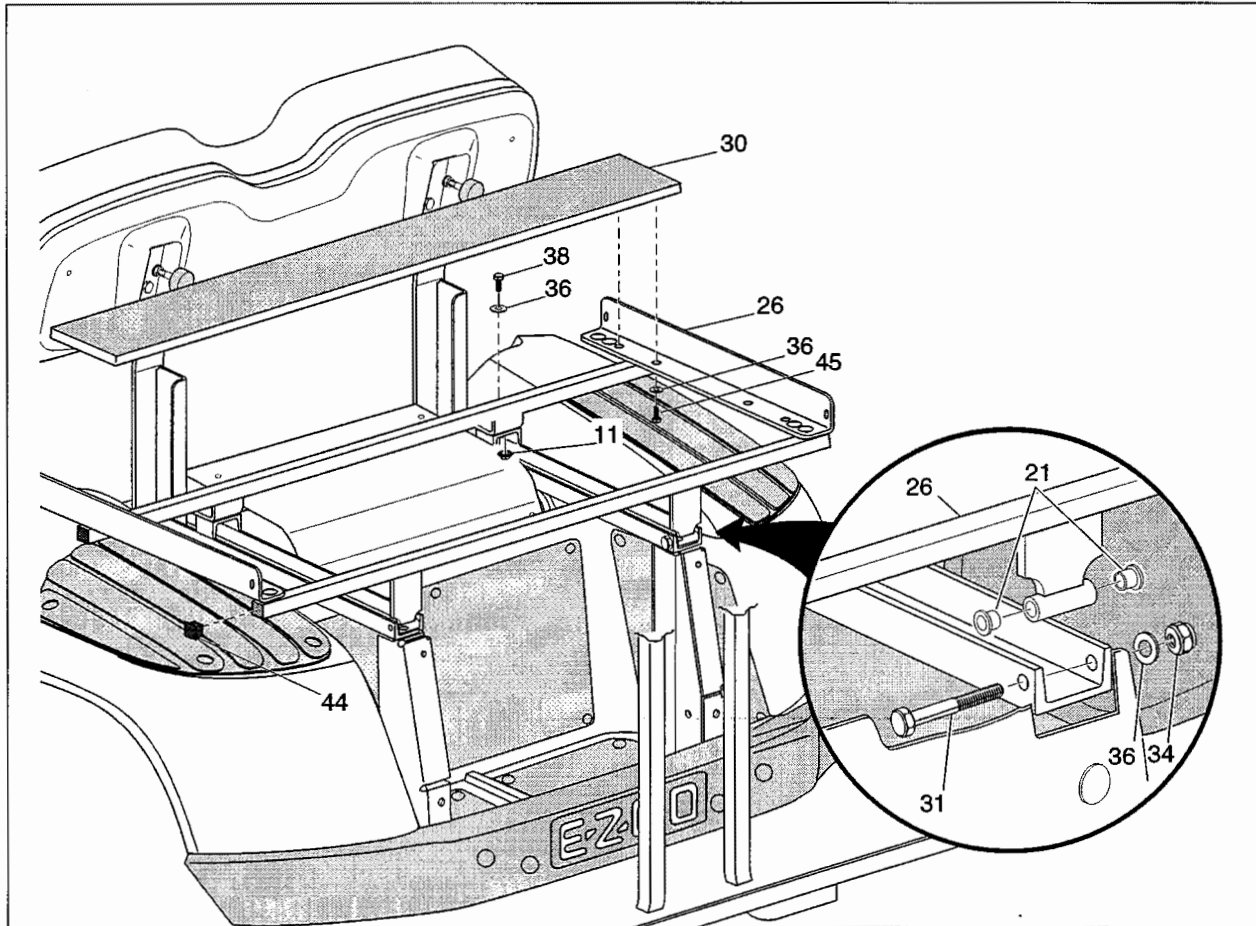
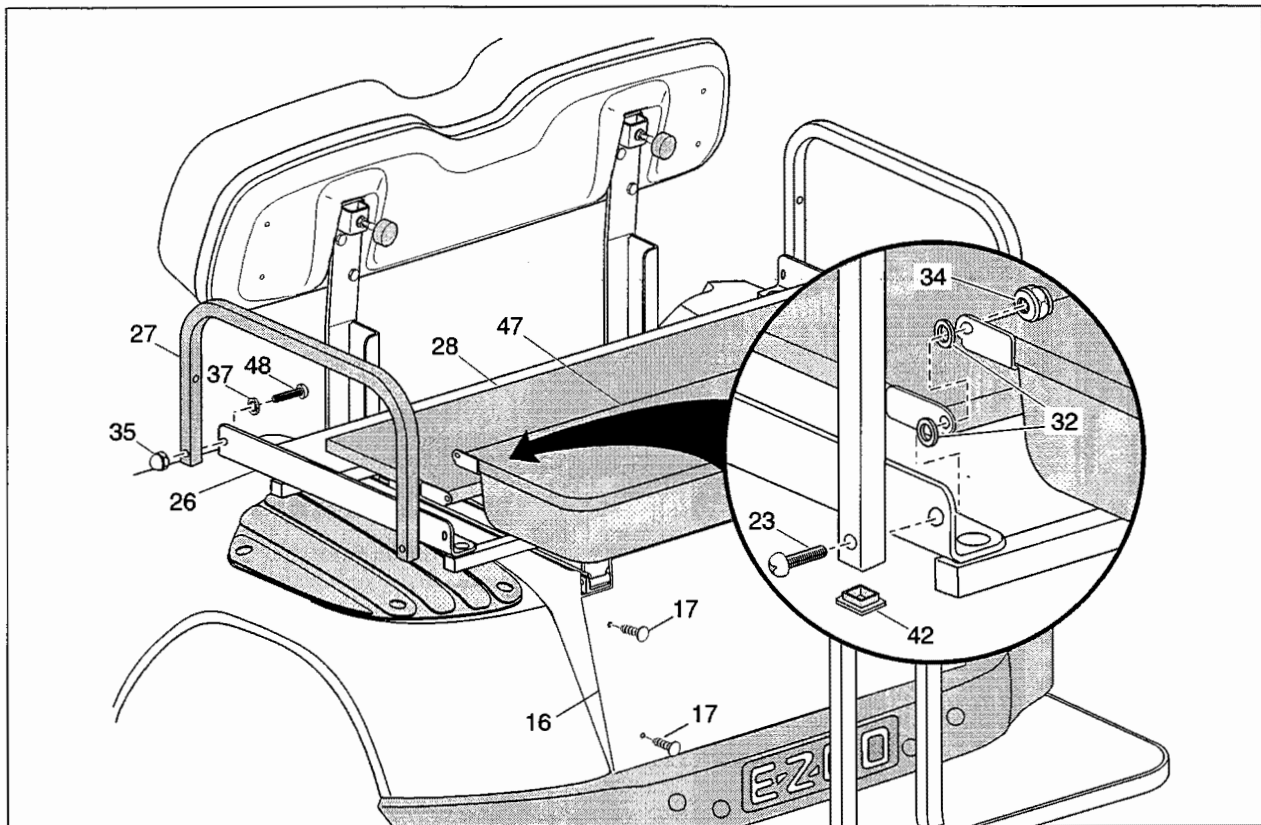

Fig. 6
Fig. 7
3. As a 'test fit', place the support frame (item 26) into the channels of the seat back support (See Fig. 6) and tighten the hardware securing the seat back support to the vehicle frame and vertical frame support to 21-25 ft. lbs. torque.
F. INSTALLING SUPPORT FRAME (Refer to Fig. 6)
- Insert the nylon bushings (item 21) into the pivot brackets in the support frame (item 26) (4 places).
- Insert the bolt (item 31) through the pivot from the center of vehicle (2 places) and secure with washer (item 36) and nut (item 34).
- Secure front of support frame to seat back support using bolt (item 38), washer (item 36) and nut (item 11).
- Insert end plug (item 44) in each end of both tubes of support frame.
G. INSTALLING FIXED BED (Refer to Fig. 6)
1. Attach fixed bed (item 30) to support frame (item 26) using bolt (item 45) and washer (item 36). (Two places on each end of fixed bed. Do not tighten hardware at this time as some adjustment may be necessary.
H. INSTALLING HANDRAIL (Refer to Fig. 7)
1. Insert end plug (item 42) in each end of handrail (item 27).
2. Attach handrail at forward end of support frame (item 26) using bolt (item 48), lock washer (item 37) and acorn nut (item 35). Do not tighten hardware at this time.
I. INSTALLING LOAD BED AND SEAT BOTTOM (Refer to Fig. 7)
1. Position load bed (item 28) in support frame as shown.
2. Position seat bottom (item 47) in support frame as shown.
3. Insert teflon washer (item 32) between support frame and load bed and again between load bed and seat bottom as shown.
1. Place the valance panel (item 16) as shown in Fig. 7 with the sides inside the bagwell.
2. Secure the valance panel to the vertical support brackets using two rivets (item 17) in each bracket.